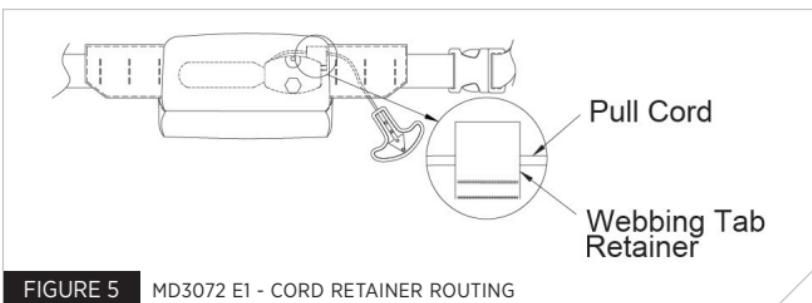

FIGURE 5 MD3072 E1 - CORD RETAINER ROUTING
5. Route the pull-tab lanyard through the cord retainer (see Fig. 5 for MD3072 E1 ONLY). This prevents the pull-tab from dangling.